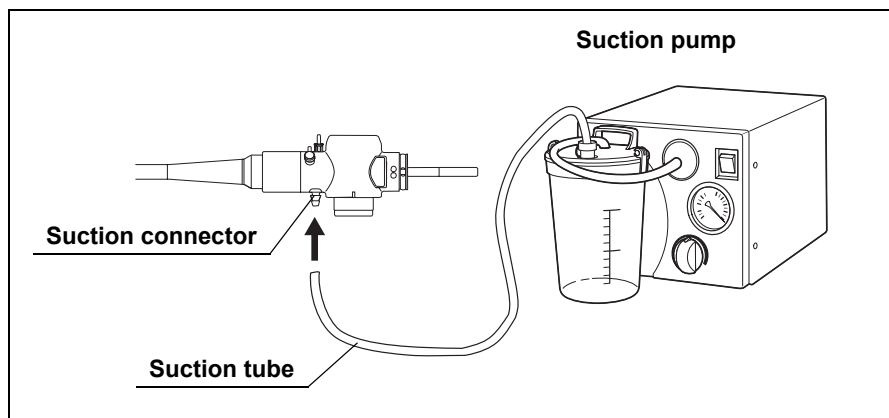

Figure 3.23
10. Connect the suction tube from the suction pump to the suction connector on the endoscope connector (see Figure 3.23).